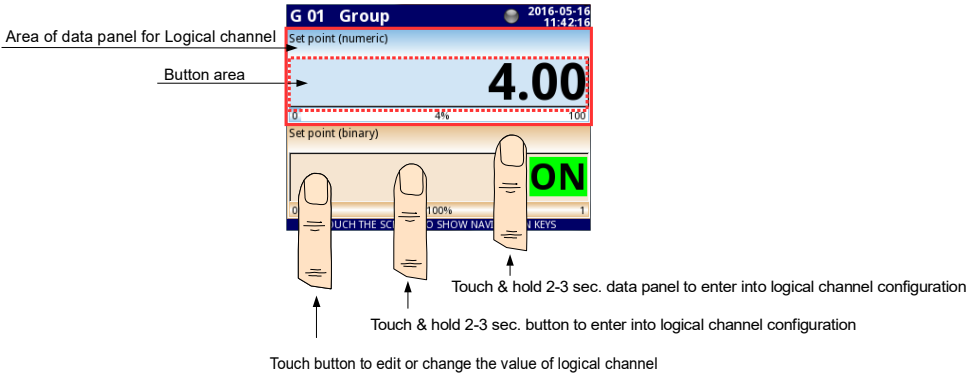

Fig. 7.55. Data panels for Logical channel in **Set point value** mode
- **Edit button** - this parameter allows you to activate the button in the panel data (see **Fig. 7.55**), this parameter has two options: